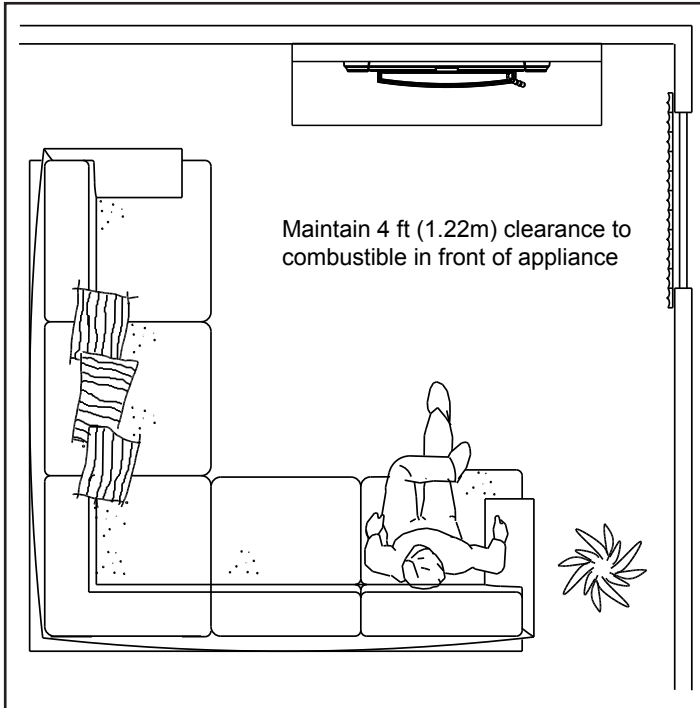

Figure 19.1
- Do NOT place combustible objects within 4 ft (1.2 m) of the front of appliance (**Figure 19.1**).